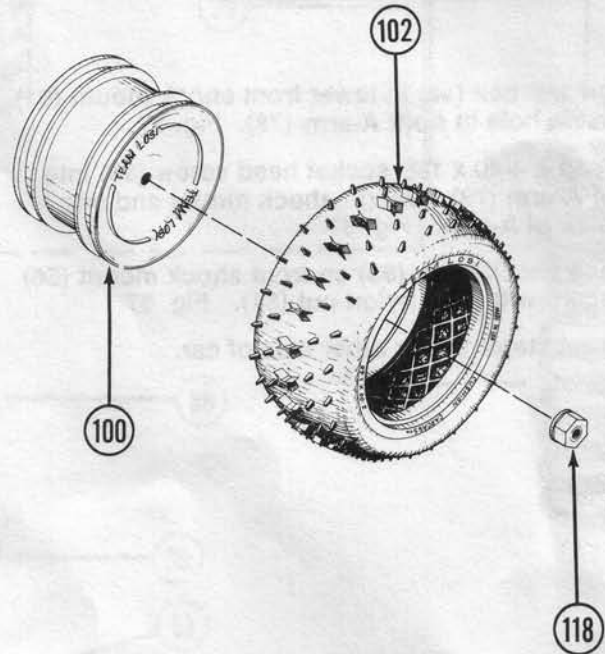

FIG. 39
5. Repeat step 3 on rear tires (102) and rear wheels (100). Fig. 39.